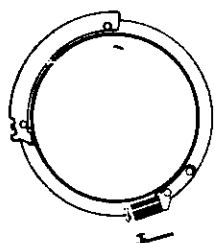

Fig. 45
1) When replacing following parts, carefully cut the contacts as shown in Fig. 45, 46, 47, 48 and assemble them.
(A) F stop ring assy (Fig. 45).